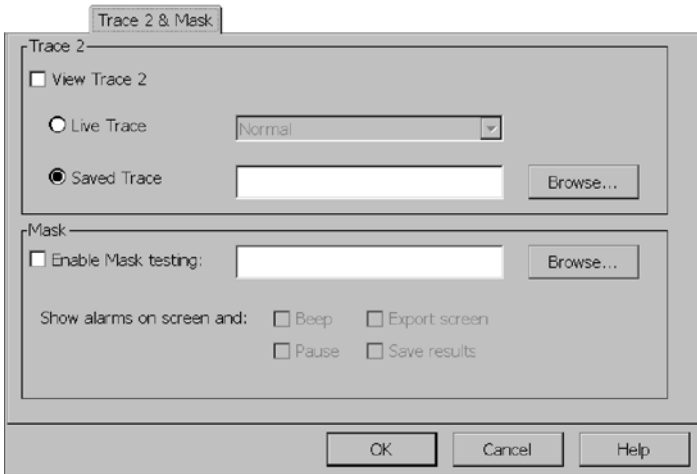

Figure 3-6: Defining Trace 2
1. Select **View > Define Trace 2...** The Settings window appears with the Trace 2 & Mask tab selected. See Figure 3-6.